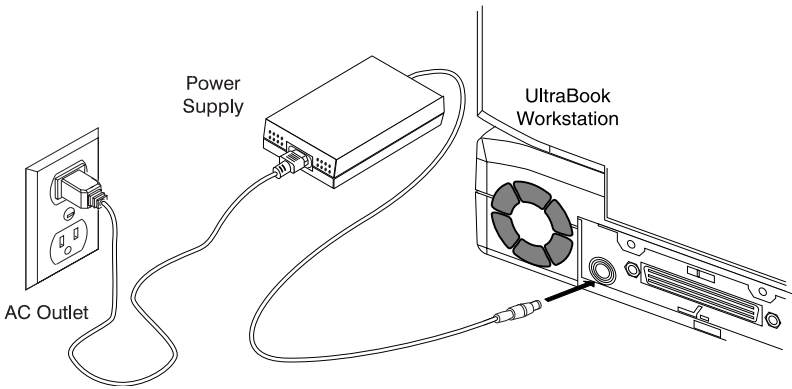

Figure 3-2 Connecting to AC Power
4. Plug the polarized connector from the AC adapter into the power input socket on the UltraBook (see Figure 3-2). Then plug the AC cable plug into a nearby AC outlet.